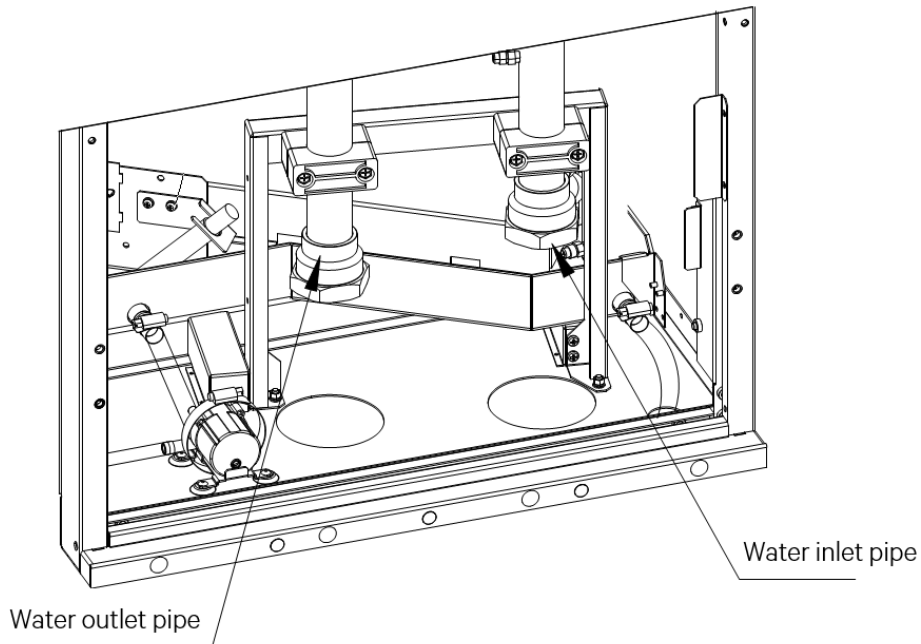

Figure 2-21 Chilled water inlet and outlet pipes
- 1) Connect the incoming and drainage chilled water pipes. The connection position of the pipes is as shown in Figure 2-21.